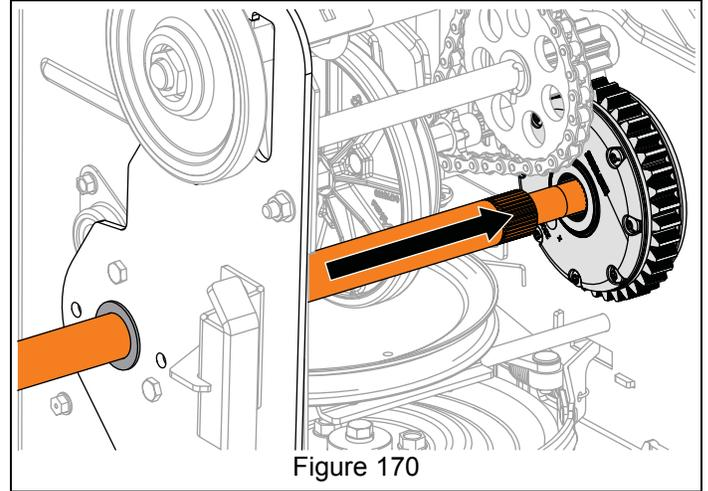

Figure 170
- Reinstall stepped-down end of long axle through side plate, frame and into differential gear. See Figure 170.